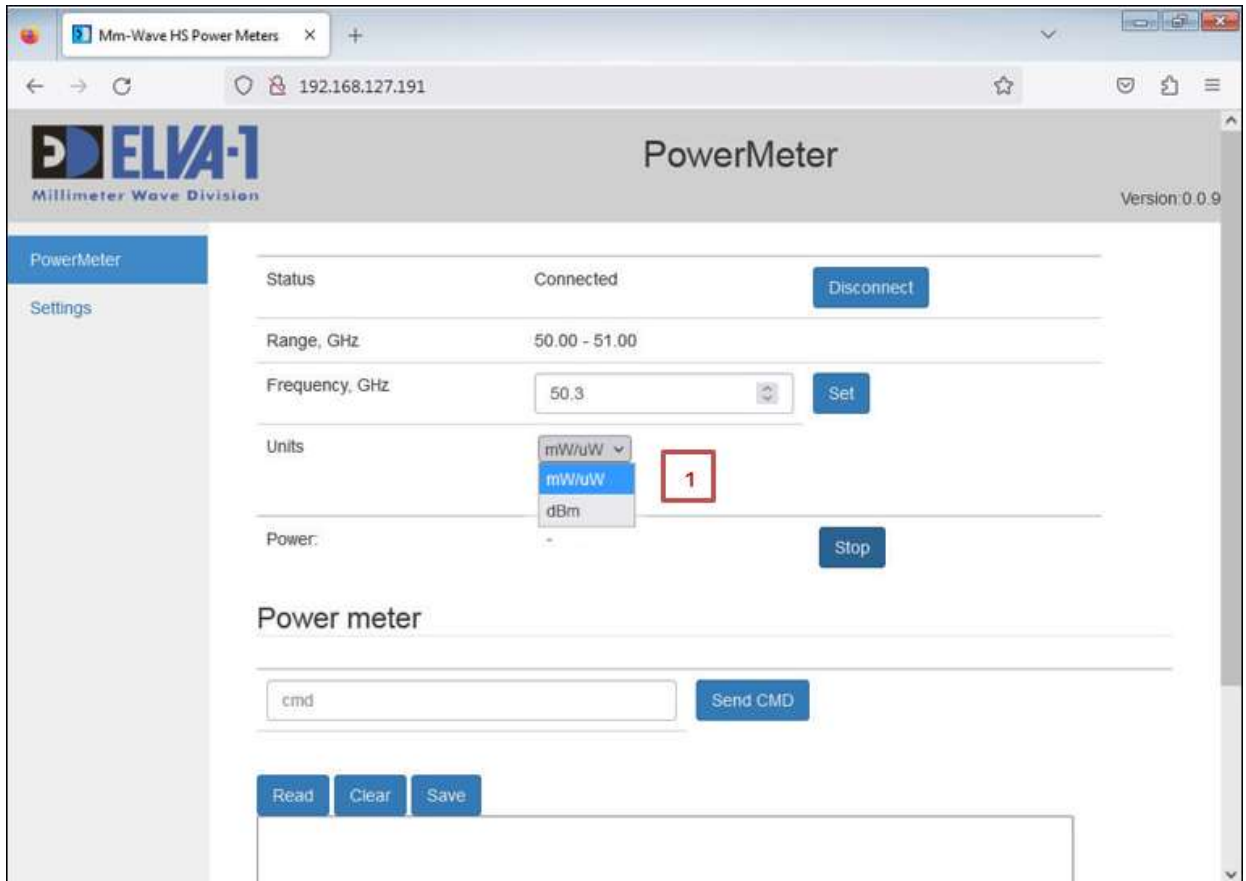

Fig.3. Changing the units of power measurement
- You can change the units of power measurement by selecting from the dropdown list [marker #1, Fig. 3].